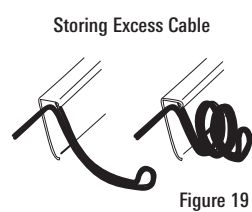

Figure 19
**Excess Cable:** If there is excess cable that needs to be gathered at one location, dress the cable routed from both directions so that a single loop is left extending from the storage location. Doubling the cable up from this point, form the cable into a coil. Storing excess cable using this method can reduce electronic interference (Figure 19).